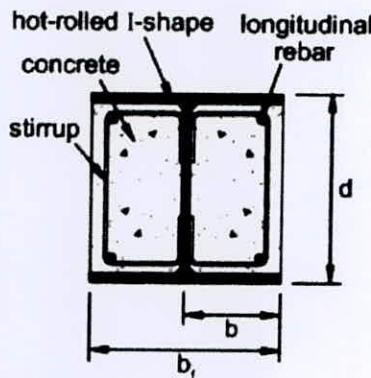

Fig. 4
- (b) A partially encased composite column with compact steel section is shown in Fig. 4. Determine the design axial load capacity of the column in compression and tension. Use AISC-LRFD method. **(18)**